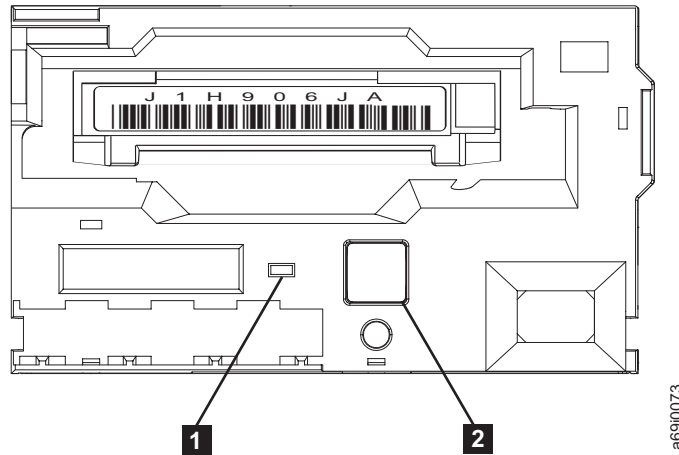

Figure 37. Removing a cartridge from a 3592 tape drive
- a. Ensure that the green power indicator light is on (see 1 in Figure 37 on page 90).